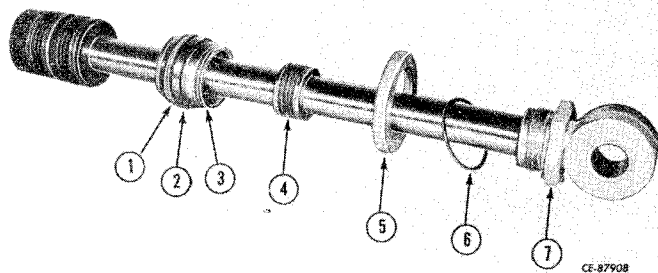

Figure 11-13
Pull the rod free of the cylinder. The cylinder cap and cover assemblies will come out with the rod and piston. (Fig. 11-13).
Remove and discard the "O" ring (1, Fig. 11-13), back-up ring (2) and packing (4) from the cylinder cap (3).
Install a new back-up ring (2, Fig. 11-13) and "O" ring (1) in the groove of the cylinder cap (3). Install a new rod packing (4) in the cylinder cap. Cross section of packing ring is "V" shaped. Packing must be installed so that open end of "V" faces piston when cap assembly is installed on rod. Coat the packing with a film of oil. Install the packing nut (7), retaining ring (6) end cover (5) and cap assembly (3) on the rod.